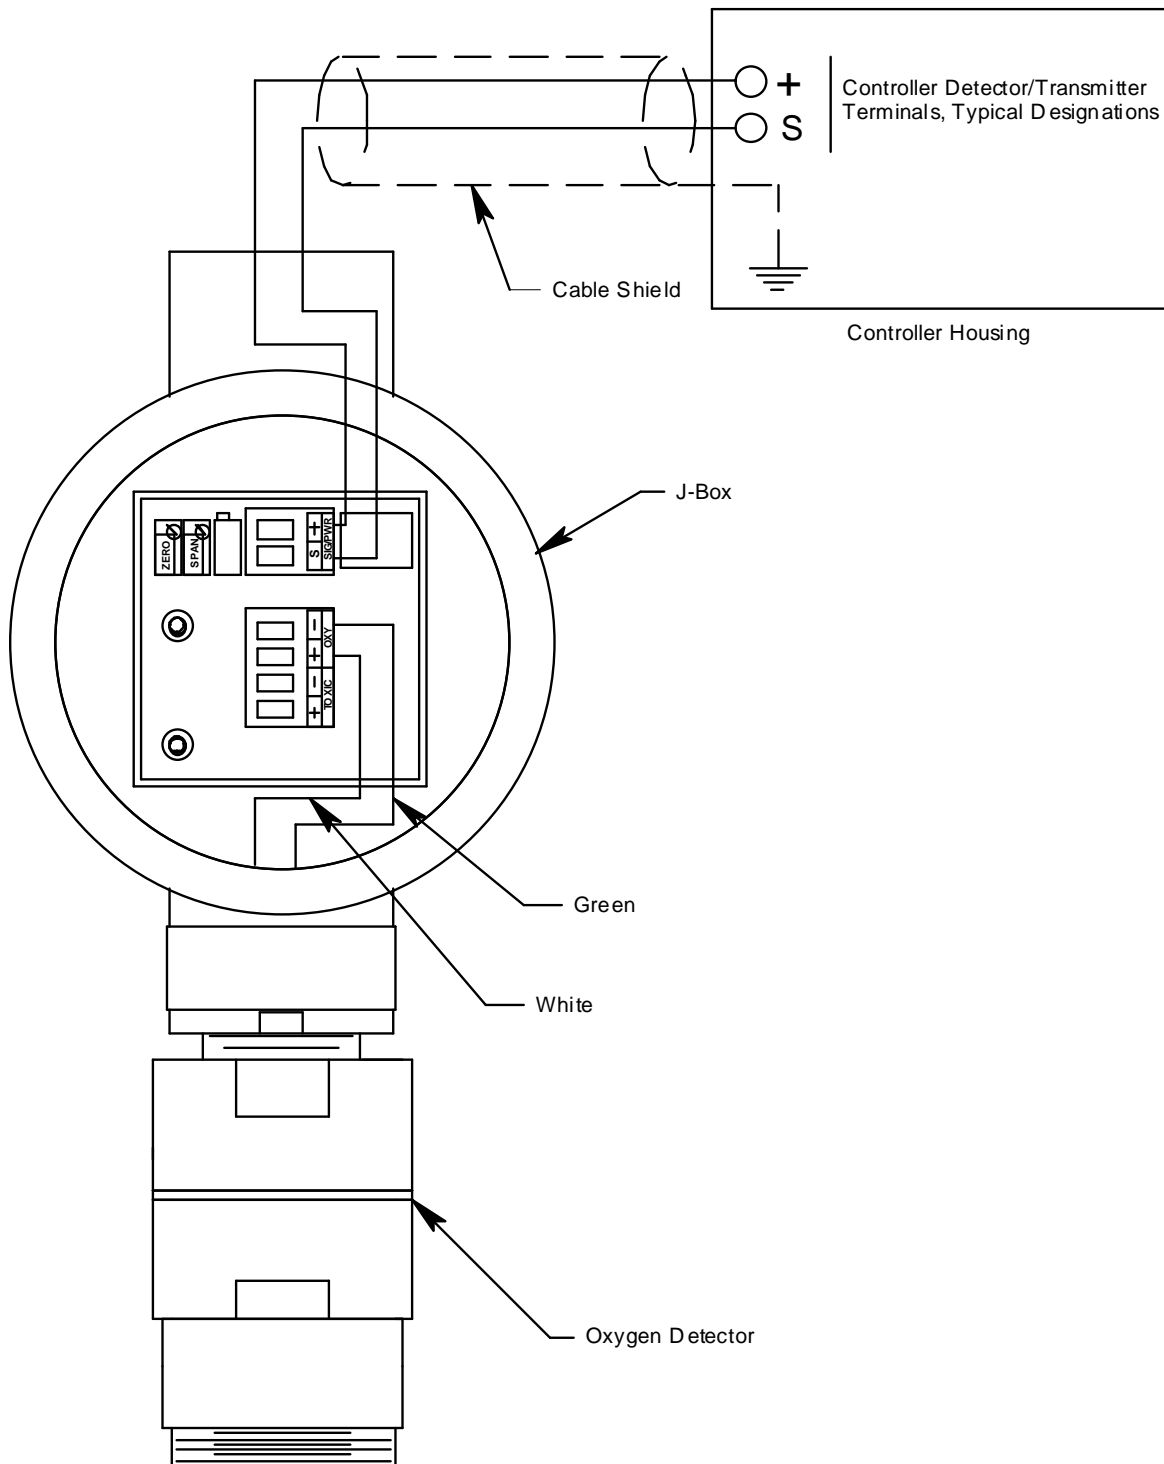

Figure 4: Wiring the Oxygen Transmitter to a Controller
4. The detector leads are factory wired. Verify that the detector leads are wired to the amplifier's detector terminal strip as shown in Figure 4.
7. Pull out the controller terminal strip, and connect the two wires to the terminal strip as follows (see Figure 4).
11. Connect the wires to the applicable detector/transmitter terminal strip at the controller as shown in Figure 4.
8. Connect the detector leads to the appropriate detector terminal strip terminals. Connect the white wire to the terminal labelled Oxy + and the green wire to the terminal labelled Oxy -. See Figure 4 on page 7 for the detector wiring connections to the amplifier.